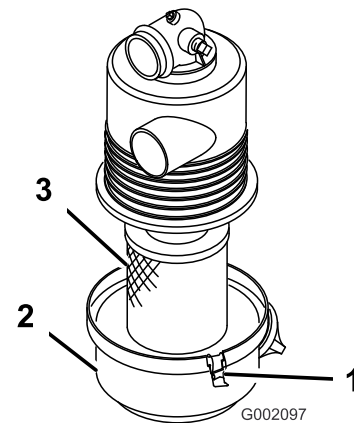

Figure 24
2. Check the air cleaner body for damage, which could possibly cause an air leak. Ensure the cover is sealing around the air cleaner body (Figure 24).
3. Release the latches securing the air-filter cover to the air-filter housing (Figure 24).
4. Separate the air-filter cover from the air-filter housing, and clean the inside of the cover (Figure 24).